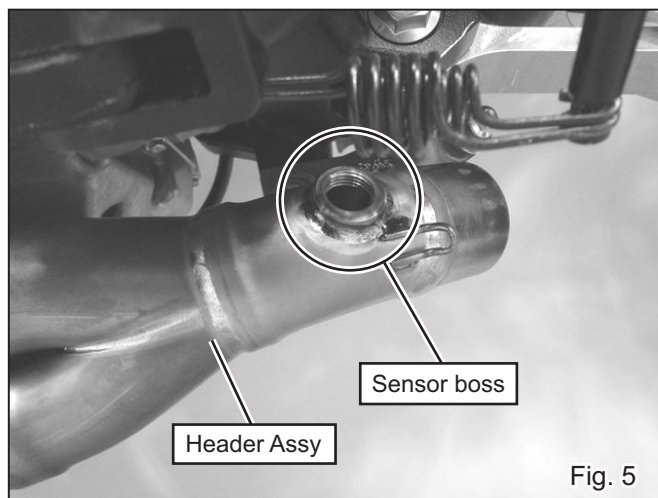

Fig. 5
- 7) Install any one of A/F sensor (M18), or Plug into sensor boss on Header Assy (See Fig. 5 & 6).